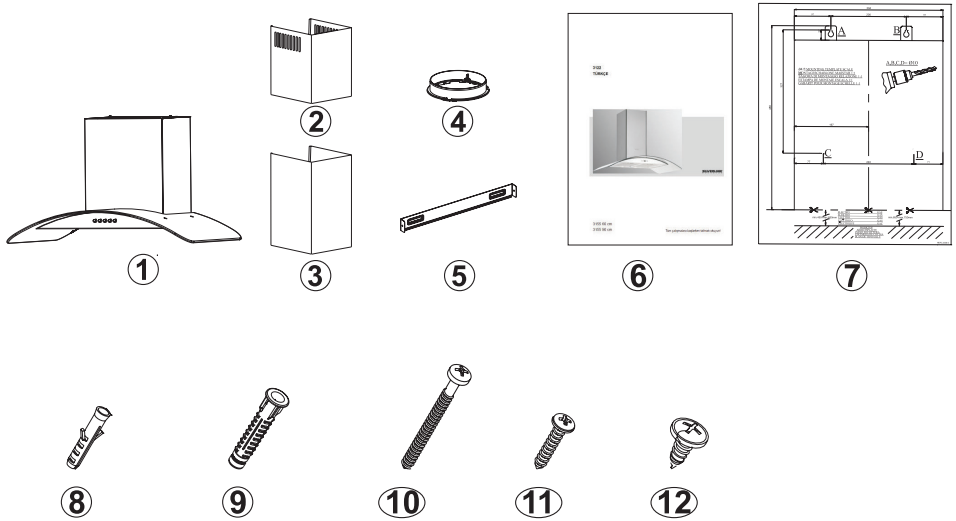

Fig. 8: CONTENT OF PACKAGE
■ Assemble the cooker hood with the help of the assembly scheme. (Fig. 8 / 7)